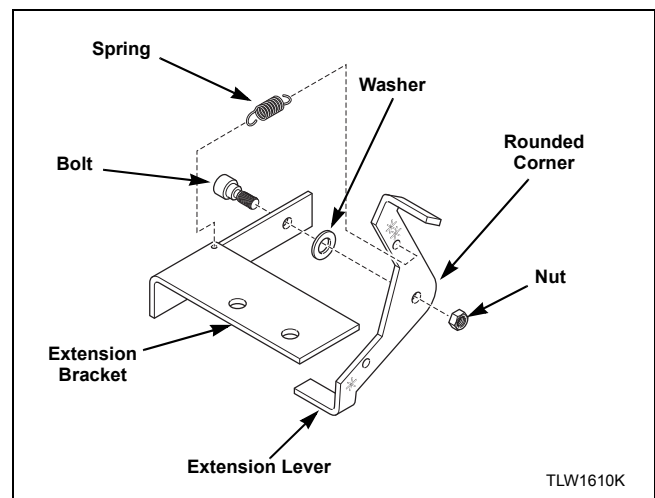

Figure 29
3. Install extension lever with rounded corner facing away from extension bracket using bolt, flat washer and nut. Refer to *Figure 29*.
4. Install spring to extension bracket with hook facing down. Install other end of spring to extension lever with hook facing left while standing in front of unit. Refer to *Figure 29*.